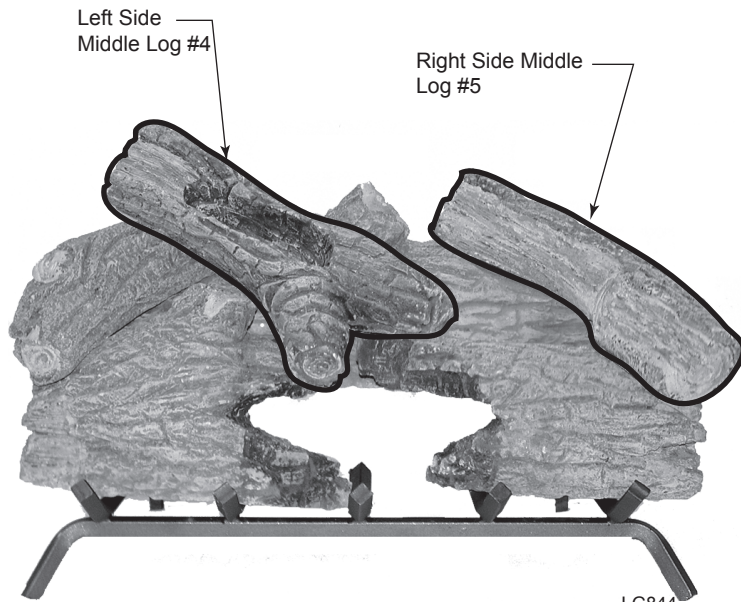

Figure 26 - Place Right Side Middle Log and Left Top Log
6. Place right side middle log #5 as shown. *Figure 26*
7. Place left top log #7 as shown. *Figure 26*